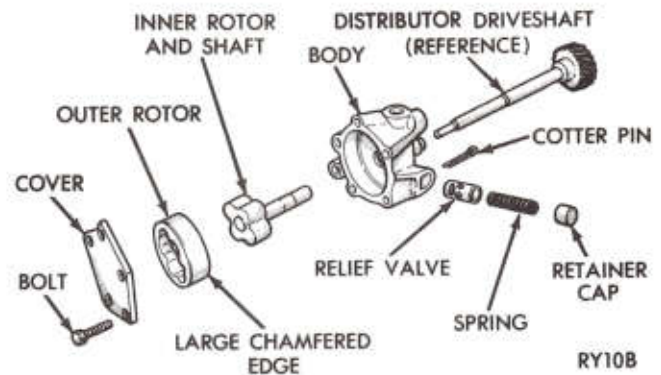

Fig. 57—Oil Pump, Disassembled View
(2) Remove oil pump cover bolts and lockwashers, and lift off cover.
(3) Discard oil seal ring. Replace with new seal ring. **New pumps may not have seal ring.**
(4) Remove pump rotor and shaft, and lift out outer rotor.
(5) Wash all parts in a suitable solvent and inspect carefully for damage or wear (Fig. 57).